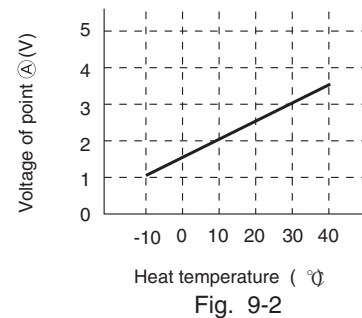

Fig. 9-2
- (1) Preheating
- (2) Low-temperature defrosts at cooling and dehumidification operation time.
- (3) Not working of reversing valve or detection of opening of heat exchange thermistor is controlled.
According to heat exchange temperature, the voltage of point ① becomes as it is shown in Fig. 9-2.